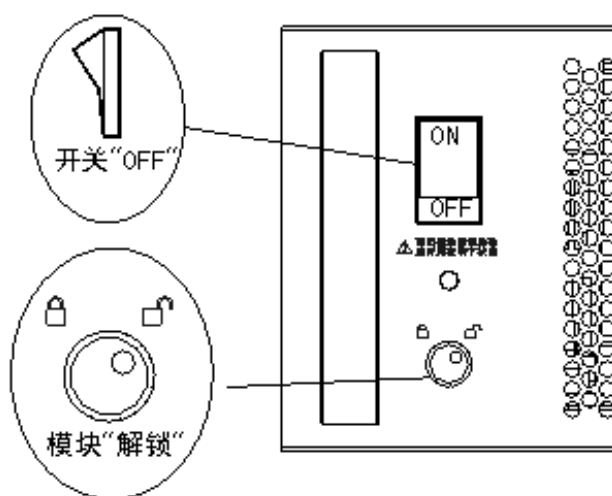

Fig.7.1
1. Set the input breaker of the UPS module to the OFF position and set the position lock located on the front panel of the module to “ ” (Fig.7.1) .